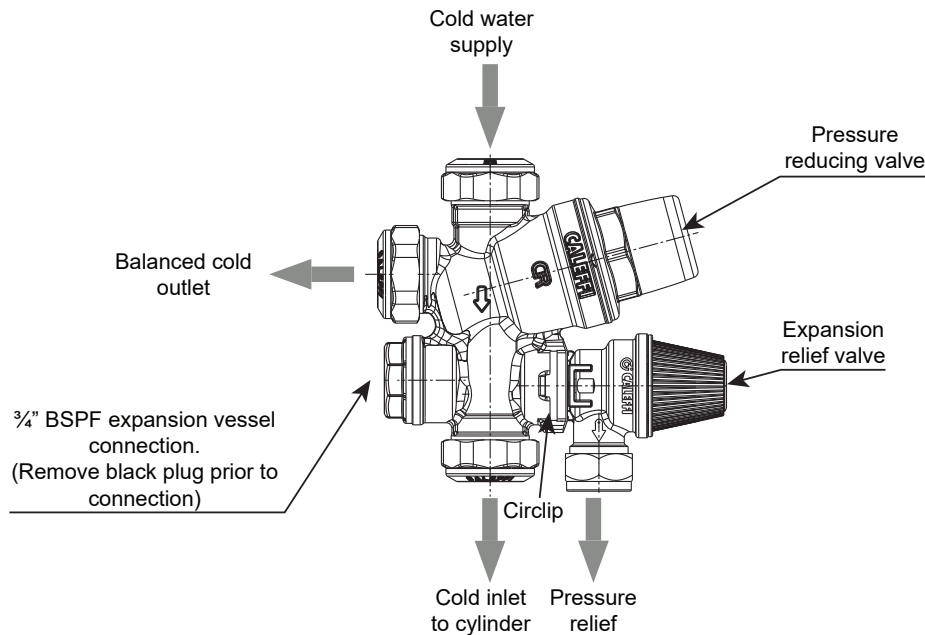

Figure 3-2: Cold water inlet manifold
A balanced cold water connection is provided on the inlet manifold. Refer to Figure 3-2. This should only be used to provide balanced cold supplies to shower valves and mixer taps. If the balanced cold water outlet is not required, blank off this port.
3. Once the pipework is flushed connect the cold supply to the Inlet manifold. Refer to Figure 2-2 for location and Figure 3-2 for a detailed drawing of the manifold. A service valve (not supplied) must be fitted in the cold supply to the cylinder before this connection is made.
6. Connect the expansion vessel directly to the ¾" BSPF connection in the inlet valve manifold body, after removing the black plastic plug (see Figure 2-2 for location and Figure 3-2 for a detailed drawing of the manifold). Refer to Section 3.9 for more information on fitting the expansion vessel.
8. The pressure reducing valve has two outlets, the first being the cold supply to the cylinder; the second one is for a balanced cold water supply (Refer to Figure 3-2), to a shower or a bidet (over rim type only, ascending spray type requires type AA, AB or AD air gap).
This expansion vessel must be connected into the cold water supply, between the expansion relief valve (in the inlet manifold) and the cold water inlet to the cylinder. Refer to Figure 3-2.
The preferred method of connection is to hard pipe the expansion vessel directly to the ¾" BSPF connection in the inlet valve manifold body using 22mm diameter pipe. Refer to Figure 3-2.
1. Remove the black plastic plug from the inlet manifold body (refer to Figure 3-2).